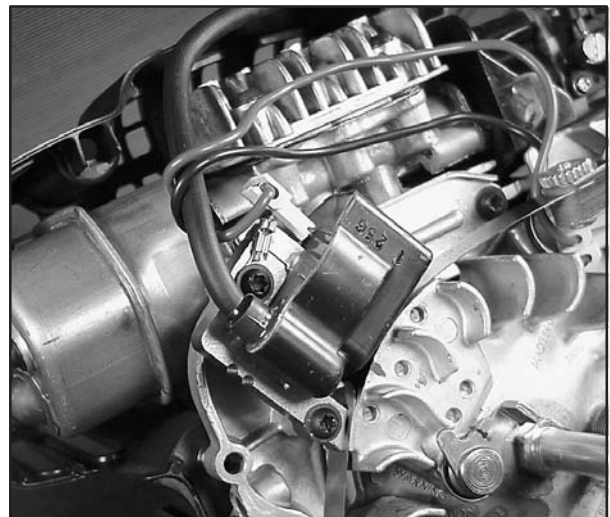

Fig. 19
2. Insert feeler gage .010" – .014" (.25 – .35 mm) between flywheel magnets and armature, Fig. 19.